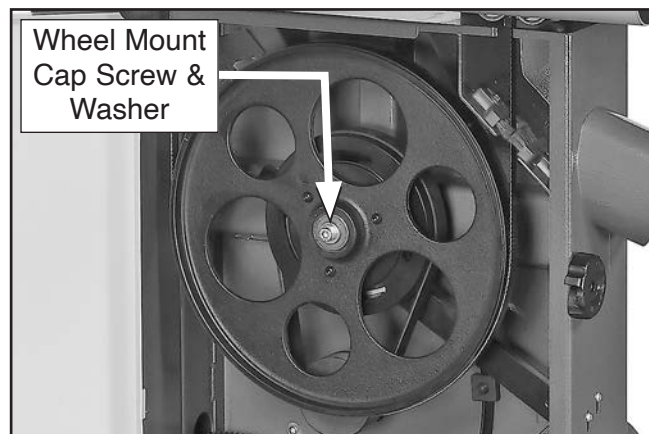

Figure 95. Location of wheel mount cap screw and washer.
3. Remove lower wheel mount cap screw and washer shown in **Figure 95**, then slide lower wheel with bearing off of shaft.